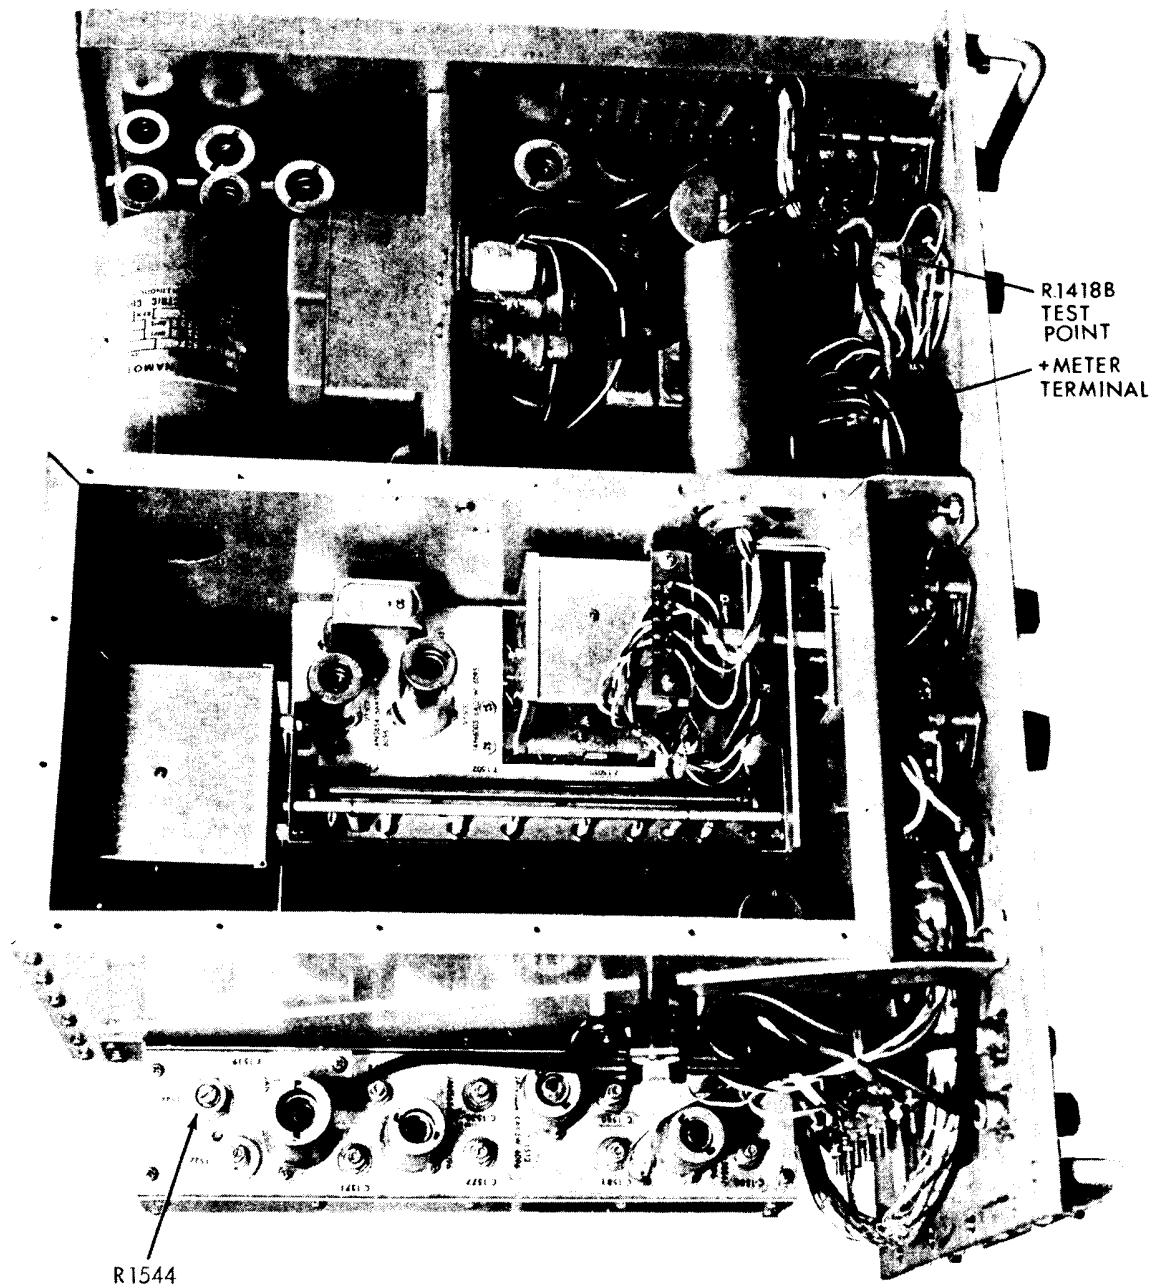

Figure 2. Test instrument - top interior view.
(1) Loosen MICROVOLTS control set screws and remove control knob.
(2) Repeat **a**(3) above while adjusting MICROVOLTS control shaft to physical position yielding optimum within-tolerance power meter indications.
(3) Replace control knob on shaft and align corresponding control mark with index mark on front panel.
(4) Repeat **a**(4) and (5) above. If beyond tolerance indications are obtained, reposition MICROVOLTS control knob shaft setting so that all indications for **a**(2) through (7) above are within tolerance.
(5) Repeat **a**(9) and (10) above while adjusting R1544 (fig. 2) for optimum within tolerance indication.